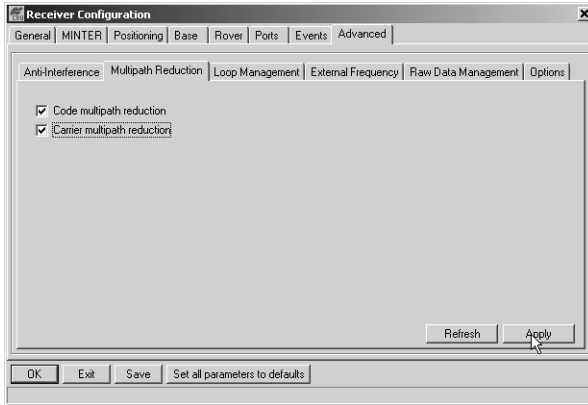

Figure 2-12. Receiver Configuration – Advanced Tab
4. Click the **Advanced** tab then the **Multipath Reduction** tab, enable the following boxes, and click **Apply** (Figure 2-12).